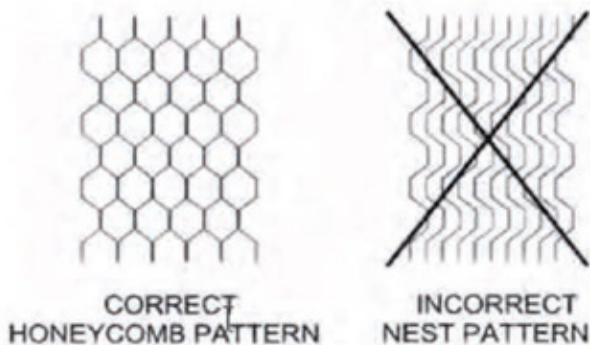

Figure 4.3 Pattern of Sides of Plate Pack
- c) Install all plates in the correct sequence in accordance with the general assembly drawing. The diagonal line painted on the plate pack side must reappear unbroken, and the honey-comb pattern made by the plate edges should be uniform as shown in Figure 4.3, below.